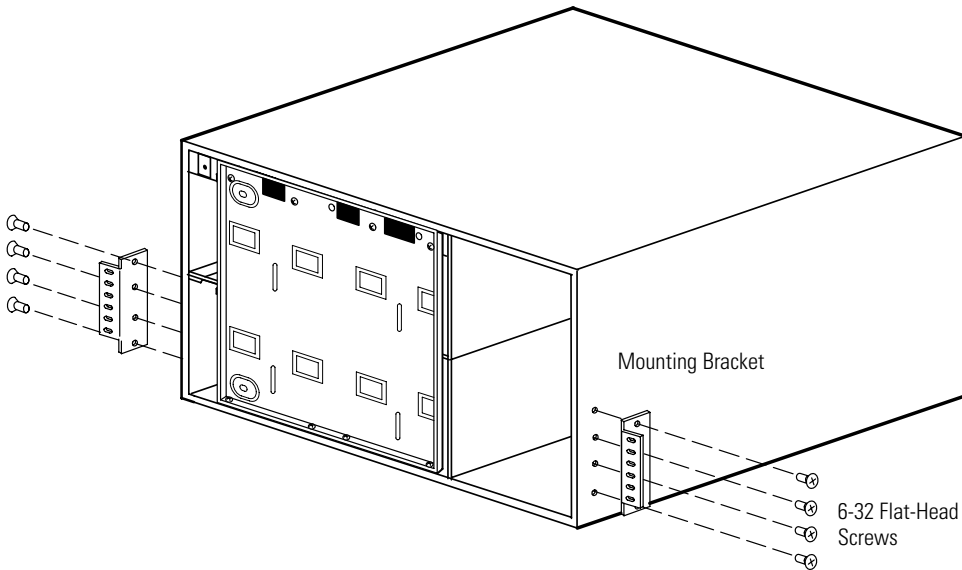

Figure 22. Installing the UPS Mounting Brackets
- 11. If the mounting brackets are not already installed, align the two mounting brackets with the screw holes on the sides of the UPS and secure with the supplied 6-32 flat-head screws (see Figure 22).